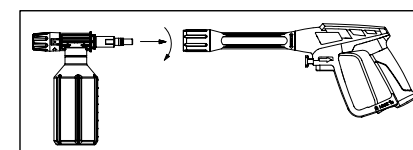

Fig. 3
4. Attach the soap bottle to the gun. (See Figure 3).